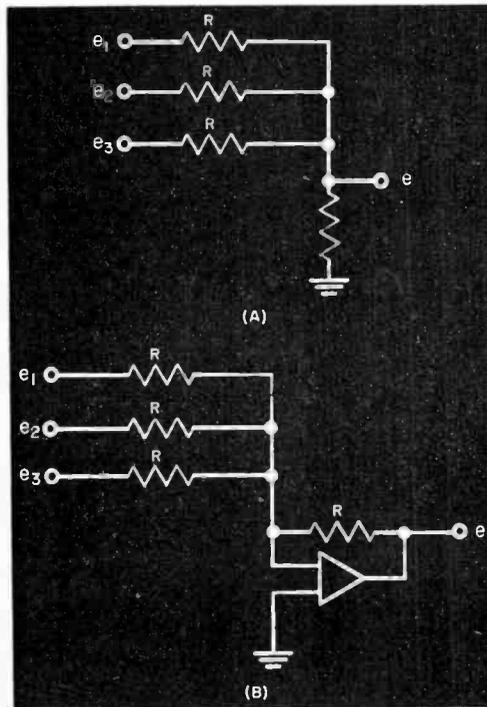

Fig. 1. Analog computer feeds value measurements into input (A), where *e* is analog of sum of voltages e_1, e_2, e_3 . In (B), amplifier is shown in circuit.
Simpler and More Direct. Analog computers are, in a fundamental sense, more direct and simple than digital computers. An analog computer is not, ordinarily, a high-precision device. As an example, a circuit such as that in Fig. 1(A) will illustrate a simple operation.
Amplifiers are used in many electronic analog computers, as shown in (B) of Fig. 1. Here the output voltage is the actual sum of the input voltages. These are high-gain stages suitable for many operations.